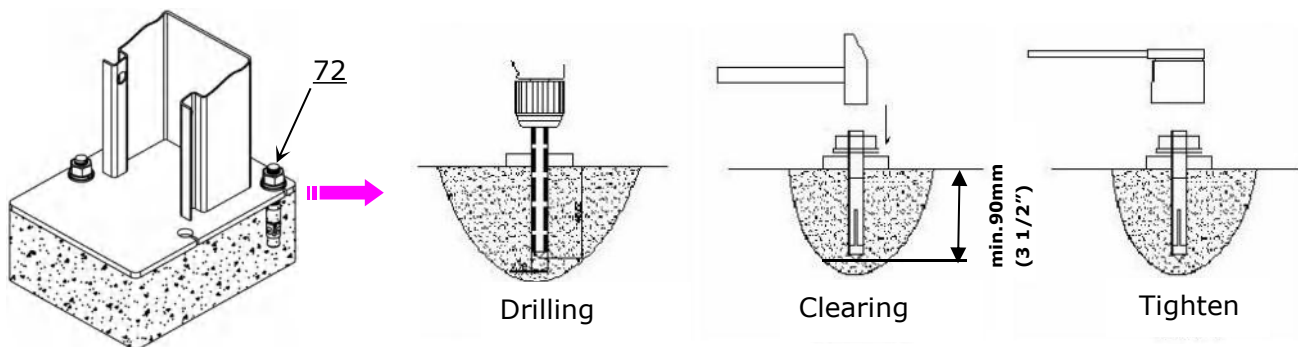

Fig. 36
3. Use the prescribed rotary hammer drill, drill all the anchor holes and install the anchor bolts and tighten all nuts. (See Fig. 36)